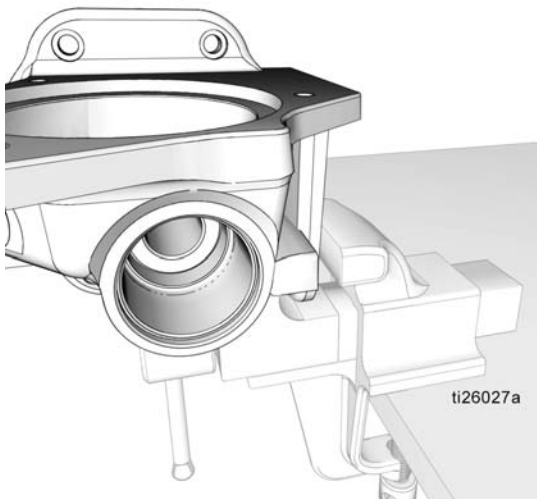

FIG. 42
4. Reposition the pump base (1) in the vise as shown in FIG. 42.